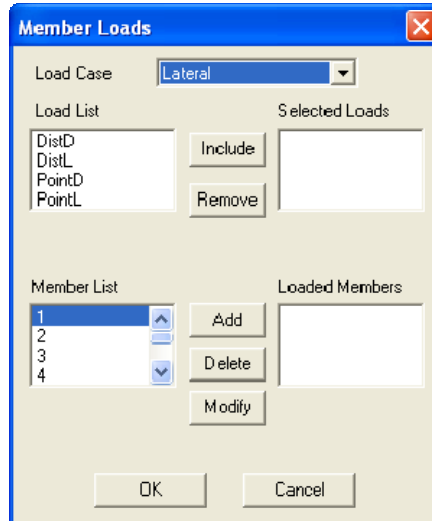

Figure 3-31 Member Loads dialog box
- From the Analyze menu, select Member Loads. The dialog box of Figure 3-31 appears.